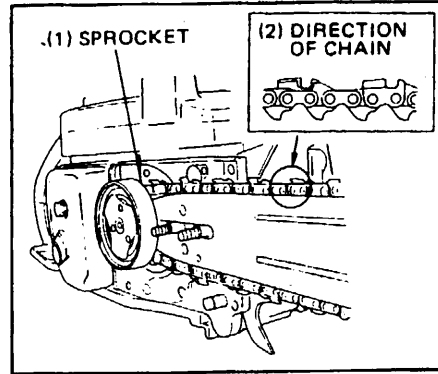

Fig. 1
2. Confirm the direction of saw chain is correct as in the figure, and align the chain on the sprocket.(Fig.1)